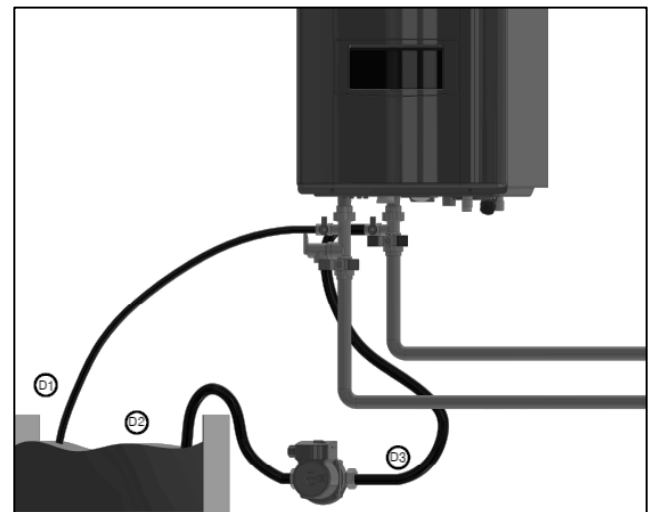

Figure 49 – Hose Connection Detail
3. Connect one hose (D1, Figure 49) to the valve (V3) and place the free end in a bucket. Connect one of the hoses (D3) to the circulation pump outlet and the cold water inlet line to valve V4. Connect the other hose (D2) to the circulation pump inlet and place the free end in the bucket.